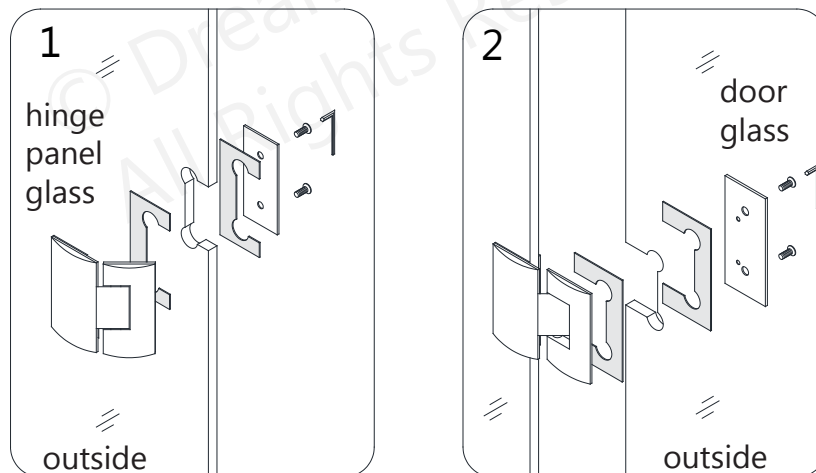
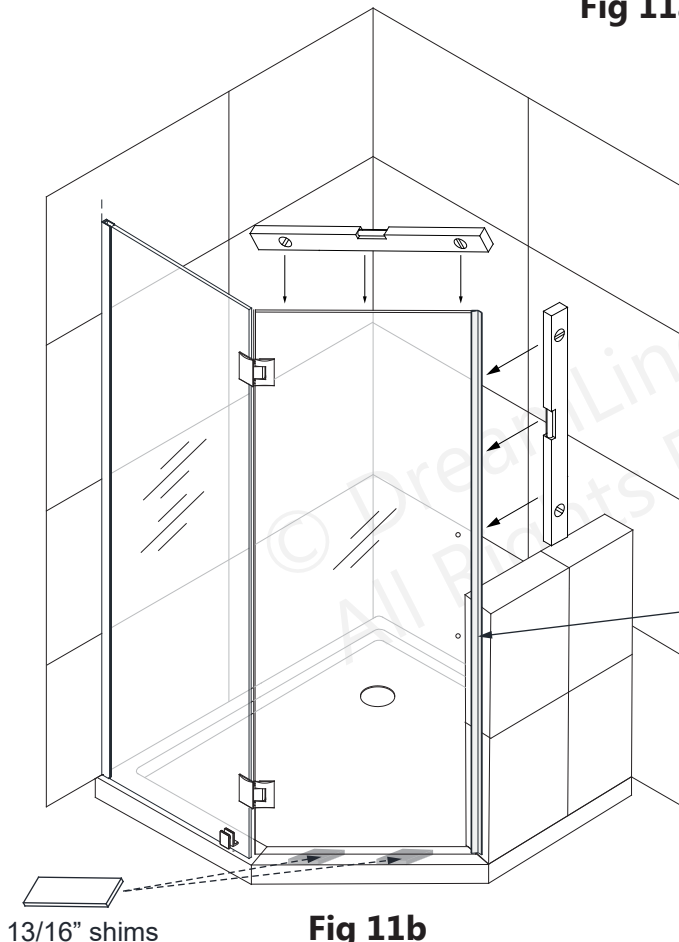

Fig 11a
Fig 11b
11. Carefully bring the **Door Glass (#06)** into the shower between the **Hinge Panel Glass (#02)** and the buttress wall. **USE CAUTION:** Do not let the glass contact the wall or threshold. Use two **13/16" shims** beneath the door glass during installation. Level up the **Door Glass (#06)** next to the **Hinge Panel Glass (#02)** and fasten the **130° Glass-to-Glass Adjustable Hinge (#12)** onto the **Door Glass (#06)**. Make sure the **Door Glass (#06)** and the **Hinge Panel Glass (#02)** are flush at the top and that the door is level and plumb. (**Fig 11a and Fig 11b**)